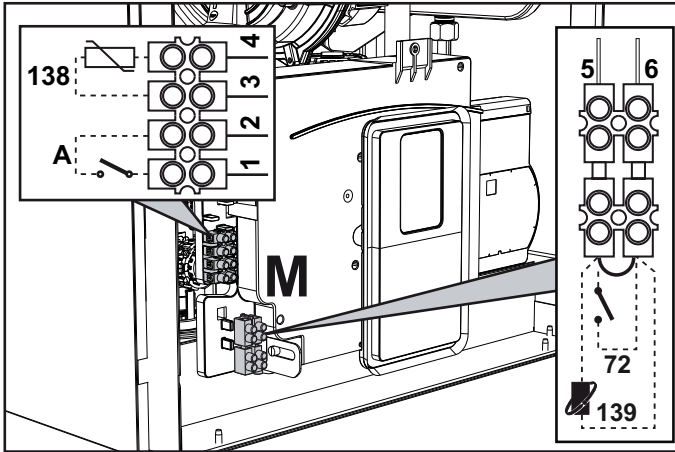

fig. 28
After removing the front panel (*** 'Opening the front panel' on page 323 ***) it is possible to access the terminal blocks (M) and the fuse (F) following the directions given below. **The terminals indicated in fig. 28 must be with voltage-free contacts (not 230V).** The arrangement of the terminals for the various connections is also given in the wiring diagram in fig. 65.
ON/OFF (A fig. 28) configuration